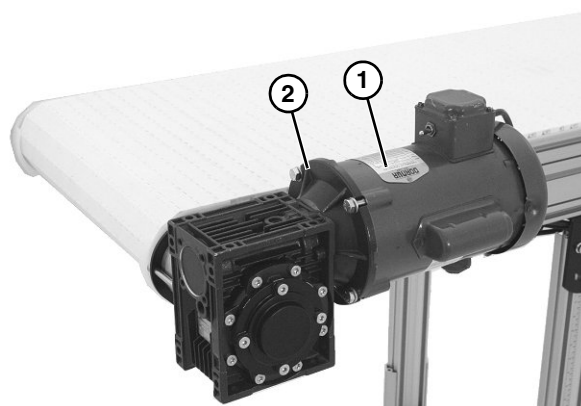

Figure 25
1. Attach the motor (**Figure 25, item 1**) to the gear reducer (**Figure 25, item 2**).